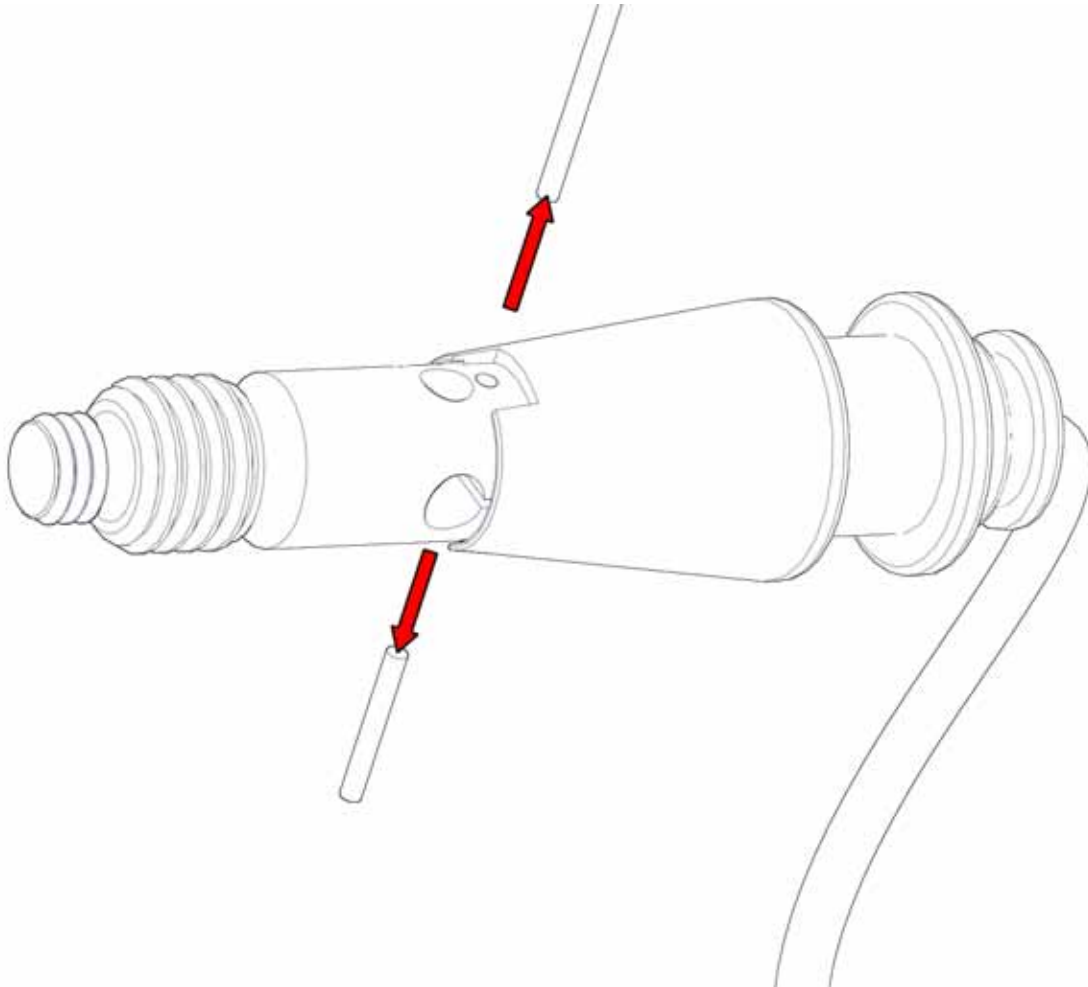

Figure 2-15 *Trimming the monofilament.*
4. Trim the long end of the monofilament flush to the release housing (Figure 2-15).